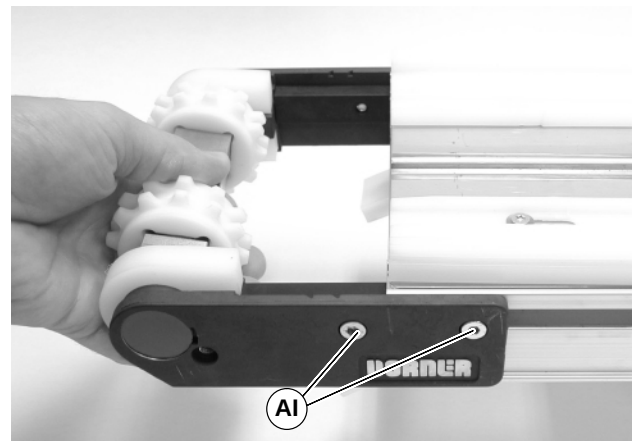

Figure 29
1. On both sides of conveyor, loosen two (2) fastening screws (AI of Figure 29). Then slide idler pulley assembly out from the conveyor frame.